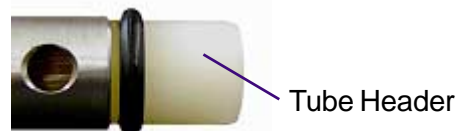

Figure 5
6. Remove one o-ring from tube header (see Figure 5).